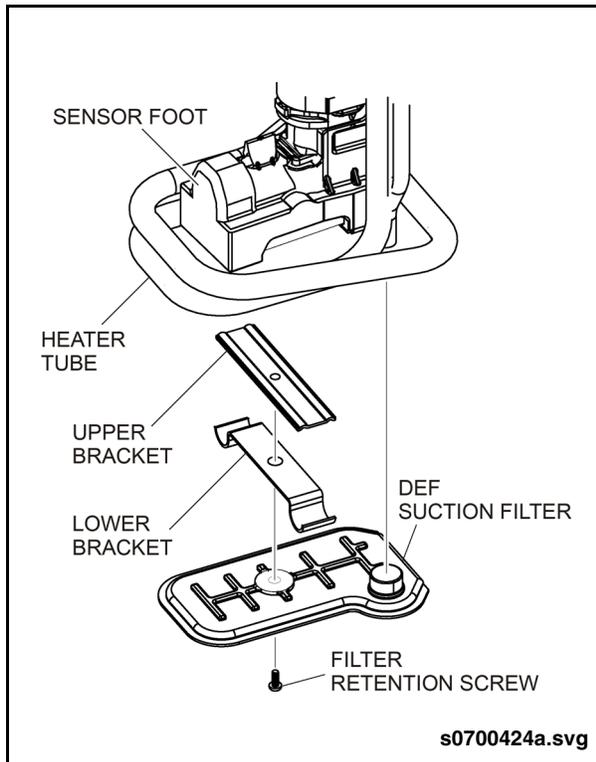

Fig. PM-2: Suction Filter
1. Remove the filter retention screw located on the bottom of the filter. Discard the screw. See "Fig. PM-2: Suction Filter" on page 4.